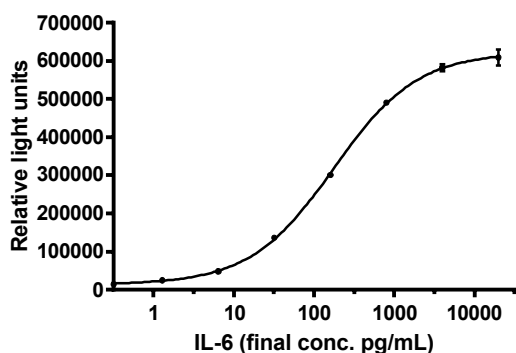

Figure 1. Example of IL-6 calibration curve.
The *iLite*[®] IL-6 Assay Ready Cells are engineered cells optimized to express Firefly luciferase under the control of a IL-6 responsive promoter. Binding of IL-6 to the membrane bound IL-6 receptor (IL-6RA and IL6ST) results in activation of the IL-6 regulated Firefly luciferase reporter gene construct. *iLite*[®] IL-6 Assay Ready Cells also contain the Renilla Luciferase (RL) reporter gene, under the control of a constitutive promoter. The constitutive expression of RL allows normalization of IL-6 induced FL activity, and renders assay results independent of variations in cell number or serum matrix effects. The luciferase signal can be measured in a luminometer following addition and incubation of luciferase substrate. The Firefly luciferase signal is proportional to the concentration of functional IL-6 in a sample (Fig.1).